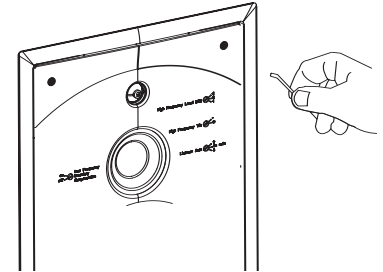

Figure 17: Tighten Allen Screws With Allen Key Wrench
17. Use the included 5/32-inch Allen key to tighten until snug, as shown in Figure 17.